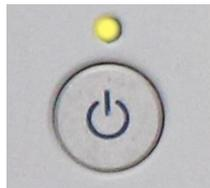

Fig. 3.3 Power Switch on Front Panel of Series 3986
Step 2. Do not connect any device to the Noise Figure Analyzer before power-on; turn on the power switch of the front panel, as shown in Fig. 3.3 and the indicator above the power switch of front panel turns to green.